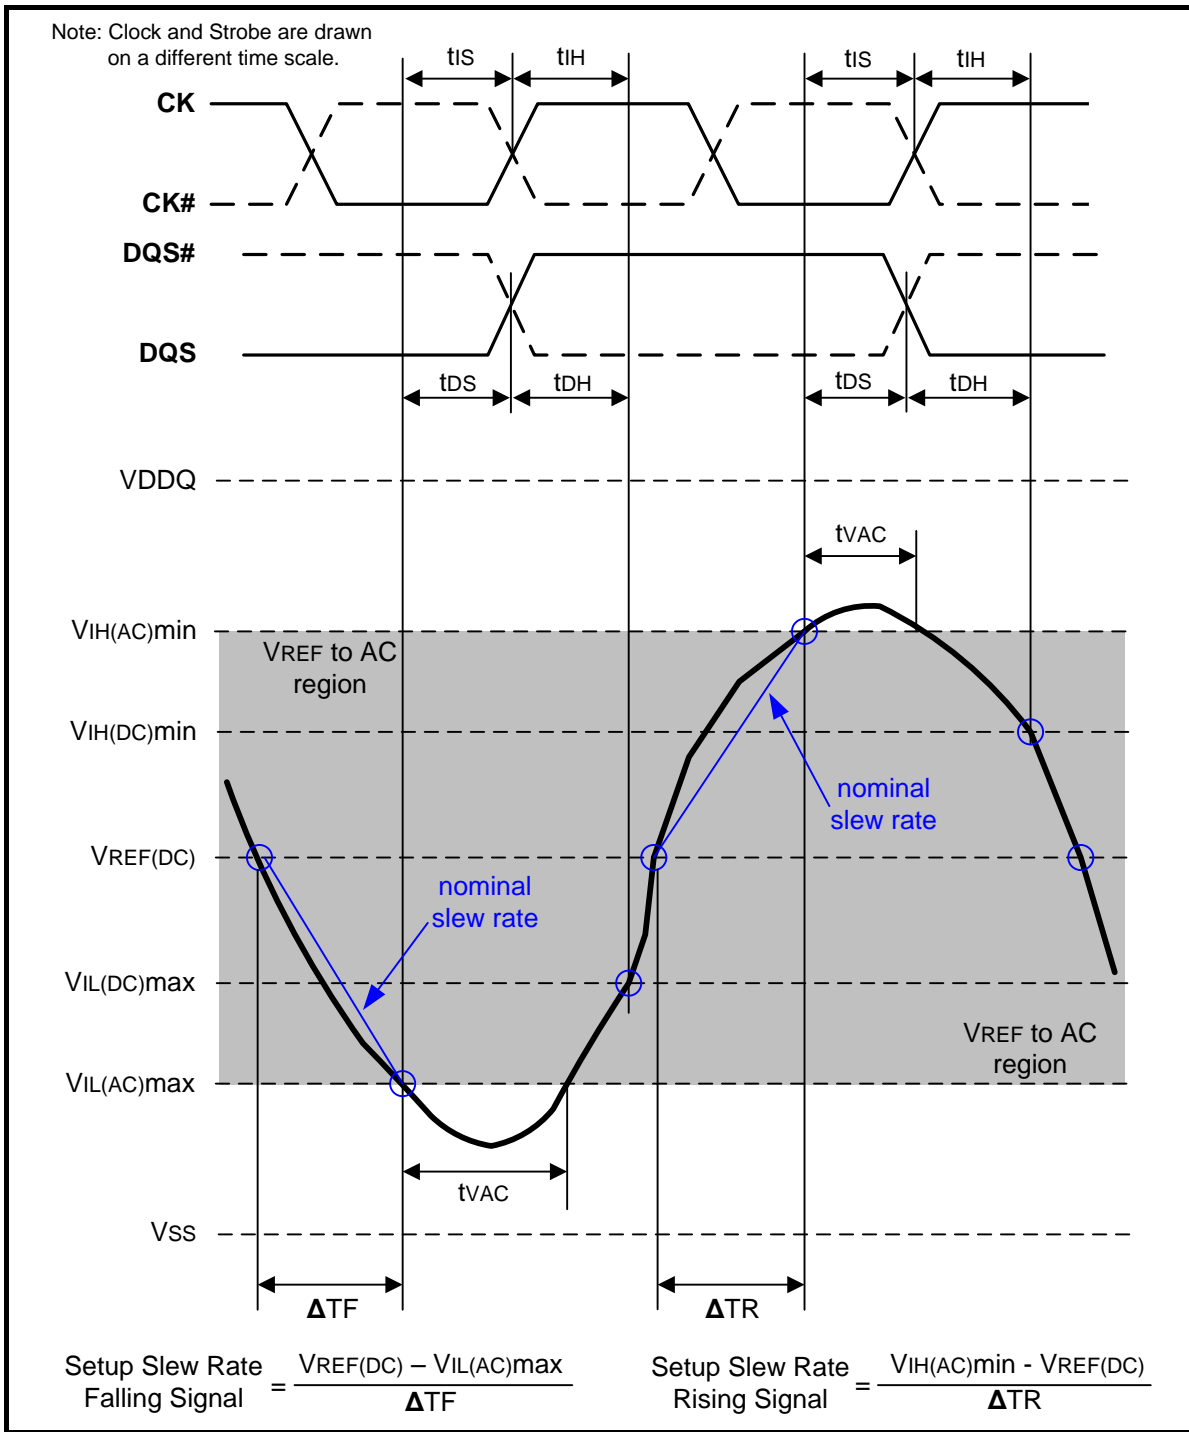
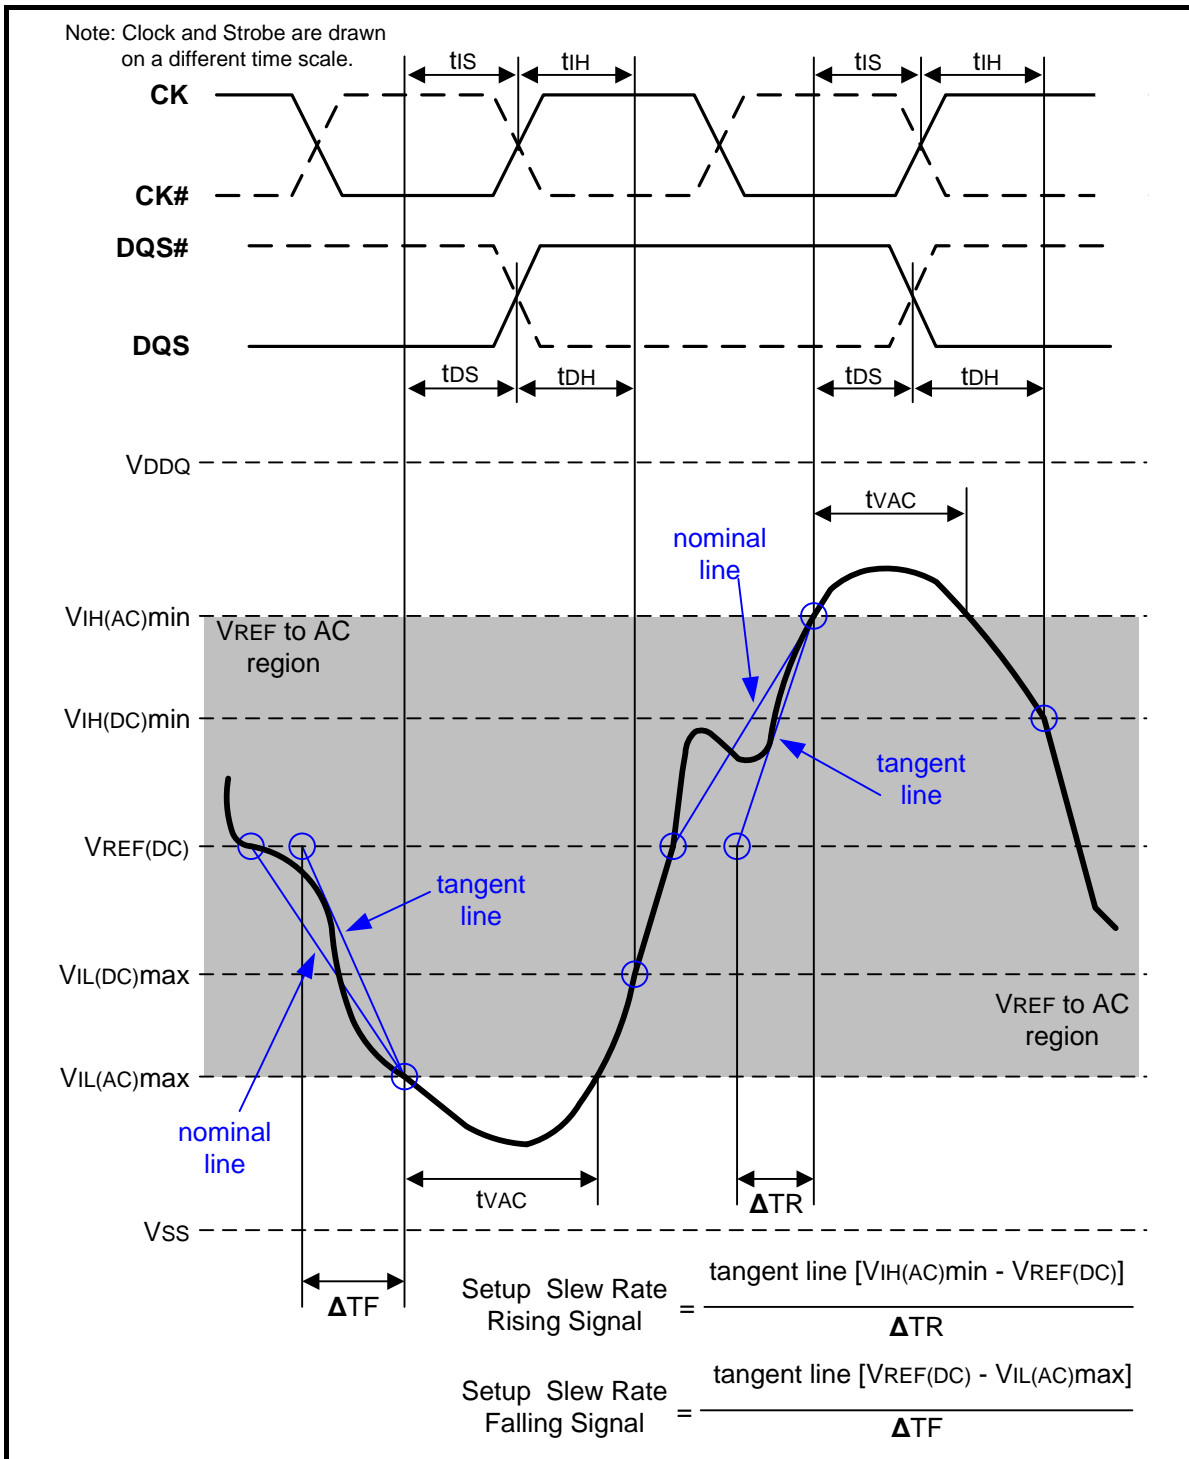

Figure 107 – Illustration of nominal slew rate and tvAC for setup time tds (for DQ with respect to strobe) and tis (for ADD/CMD with respect to clock)
Figure 109 – Illustration of tangent line for setup time t_{DS} (for DQ with respect to strobe) and t_{IS} (for ADD/CMD with respect to clock)
Setup (t_{IS}) nominal slew rate for a rising signal is defined as the slew rate between the last crossing of $V_{REF(DC)}$ and the first crossing of $V_{IH(AC)min}$. Setup (t_{IS}) nominal slew rate for a falling signal is defined as the slew rate between the last crossing of $V_{REF(DC)}$ and the first crossing of $V_{IL(AC)max}$. If the actual signal is always earlier than the nominal slew rate line between shaded 'VREF(DC) to AC region', use nominal slew rate for derating value (see Figure 107). If the actual signal is later than the nominal slew rate line anywhere between shaded 'VREF(DC) to AC region', the slew rate of a tangent line to the actual signal from the AC level to DC level is used for derating value (see Figure 109).
Setup (tDS) nominal slew rate for a rising signal is defined as the slew rate between the last crossing of VREF(DC) and the first crossing of VIH(AC)min. Setup (tDS) nominal slew rate for a falling signal is defined as the slew rate between the last crossing of VREF(DC) and the first crossing of VIL(AC)max (see Figure 107). If the actual signal is always earlier than the nominal slew rate line between shaded 'VREF(DC) to AC region', use nominal slew rate for derating value. If the actual signal is later than the nominal slew rate line anywhere between shaded 'VREF(DC) to AC region', the slew rate of a tangent line to the actual signal from the AC level to DC level is used for derating value (see Figure 109).